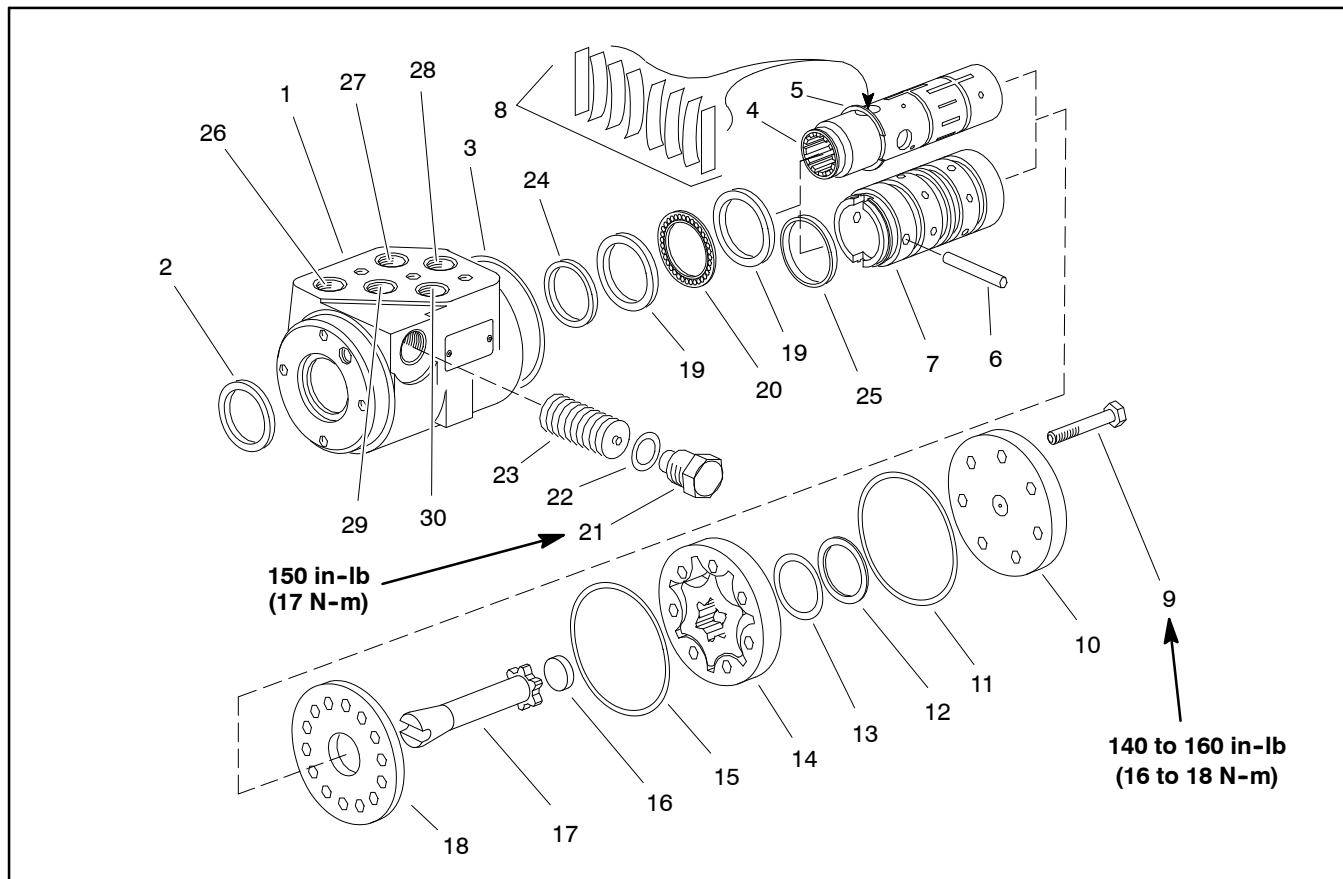

Figure 130
### Disassembly (Fig. 130)
1. Remove the seven (7) cap screws from the steering valve assembly.
2. Remove end cap, geroter, spacer, geroter drive, wear plate, seal ring, and O-rings from housing (Fig. 130).
5. Remove the thrust bearing and bearing races (2).
### Assembly (Fig. 130)